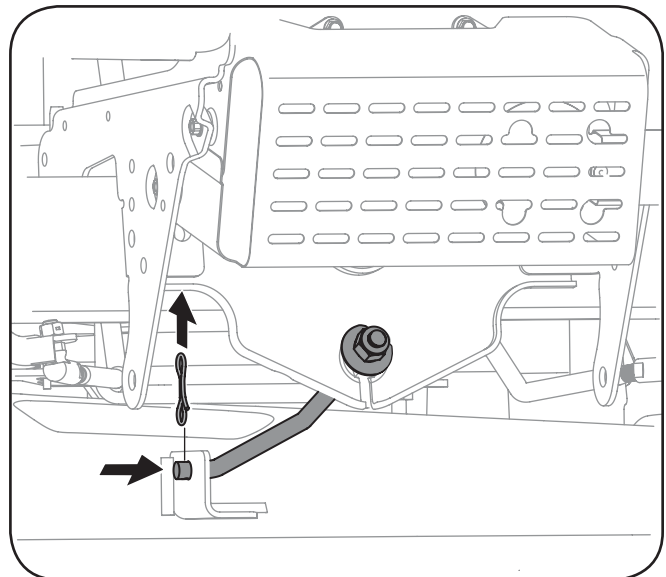

Figure 7-3
8. Remove the bow-tie cotter pin securing the deck lift rod to the deck. Slide the deck lift rod from the mounting weldment on the deck as seen in Fig. 7-3.